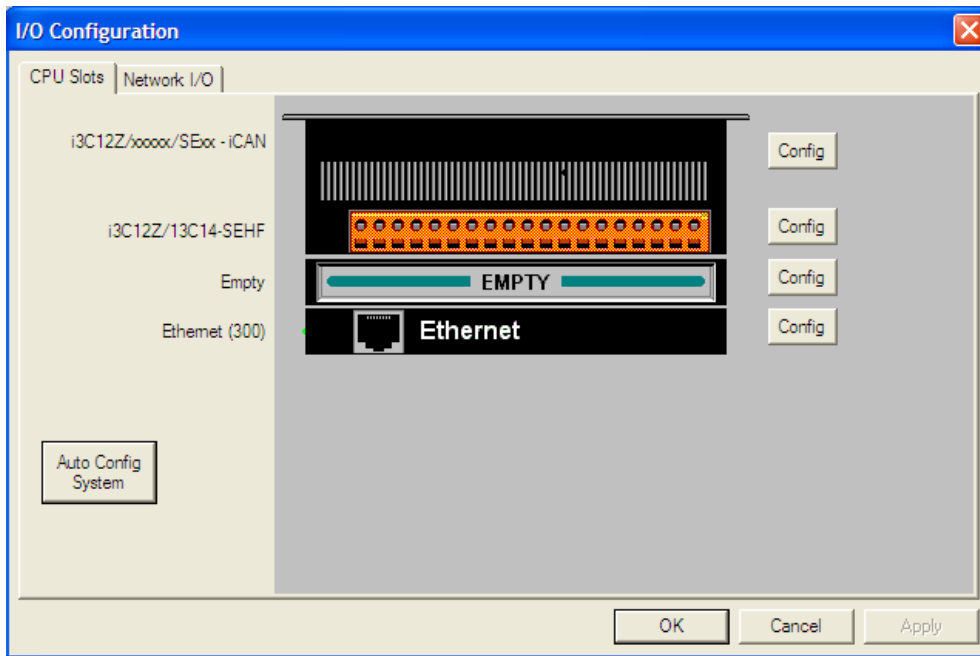

Figure 7.2.1 – I/O Configuration Dialog
1. On the main *i*³ Configurator screen, select the **Controller** menu and its **I/O Configure** sub-menu to open the I/O Configuration dialog (Figure 7.2.1)